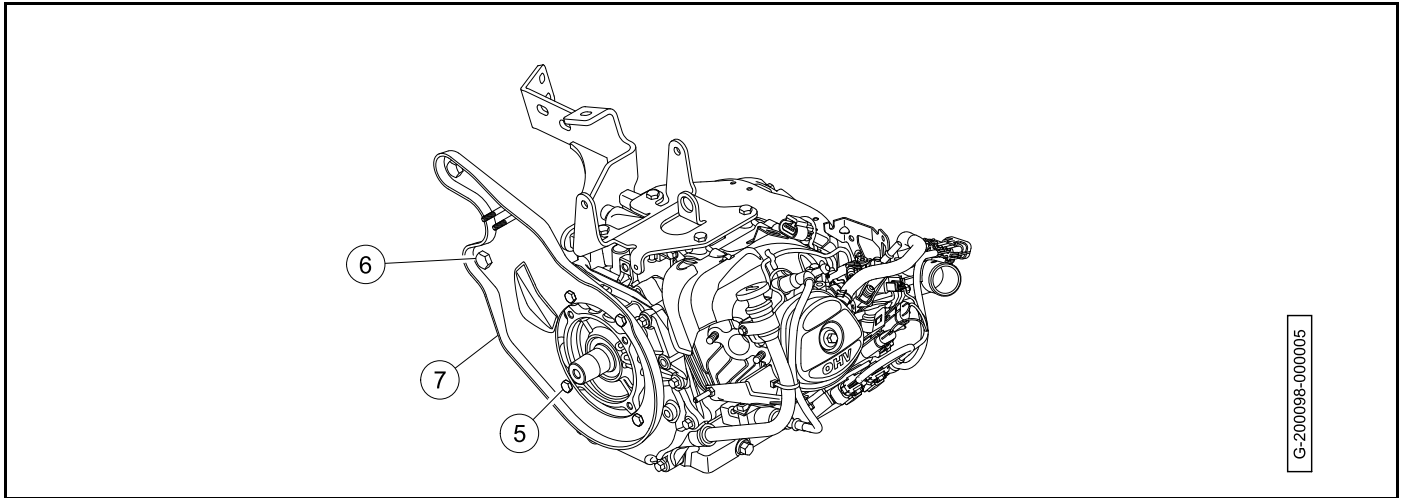

Figure 21-2 Clutch Plate Removal
7. Remove the governor cover (2).
8. Loosen the clamp and disconnect the vent line (3).
12. Disconnect the ground cable from the engine (4).
16. Remove the bolts (5 and 6) (Figure 21-2, Page 21-3).